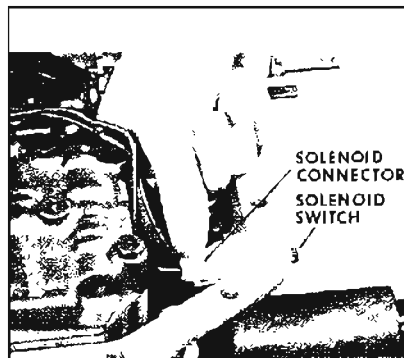

Figure 5-110
1. Disconnect solenoid connector from solenoid switch. See Figure 5-110.